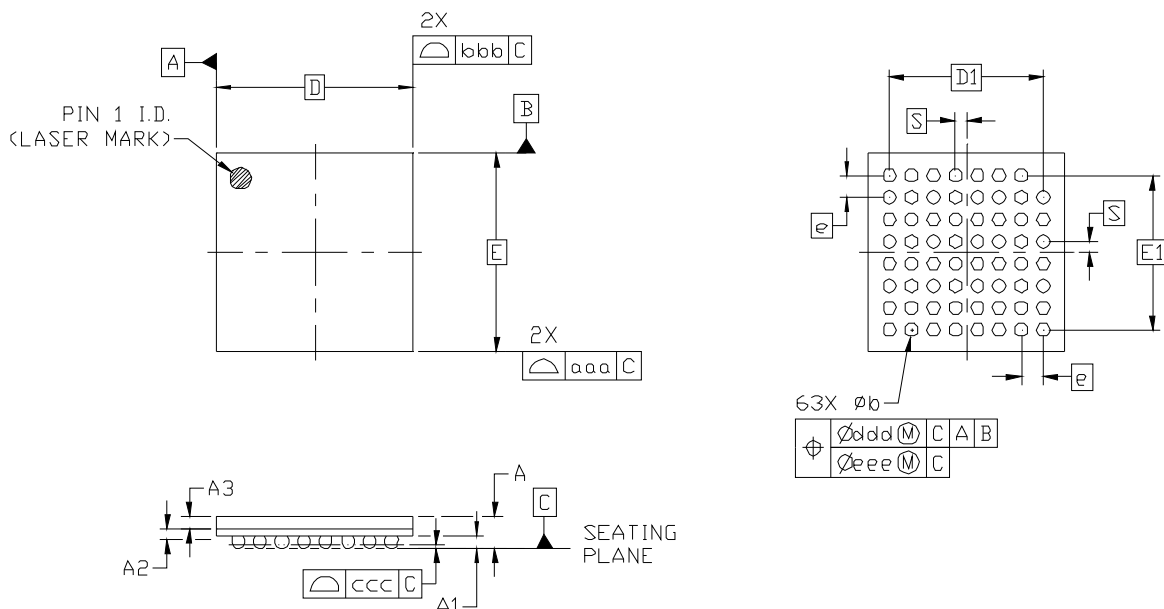

Figure 13. 63-Ball Plastic Ball Grid Array (PBGA)
Figure 13 illustrates the package details for the Si5320. Table 12 lists the values for the dimensions shown in the illustration.
- Updated Figure 13, "63-Ball Plastic Ball Grid Array (PBGA)," on page 30.